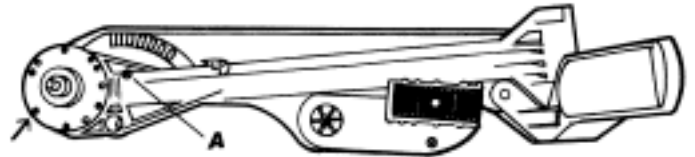

FIG 48
2. Remove 6 screws holding main bearing housing (Fig 48) shown marked. Remove bearing holding screw A.
5. Fit bearing location screw (See Fig. 48 marked A) and leave nut loose.